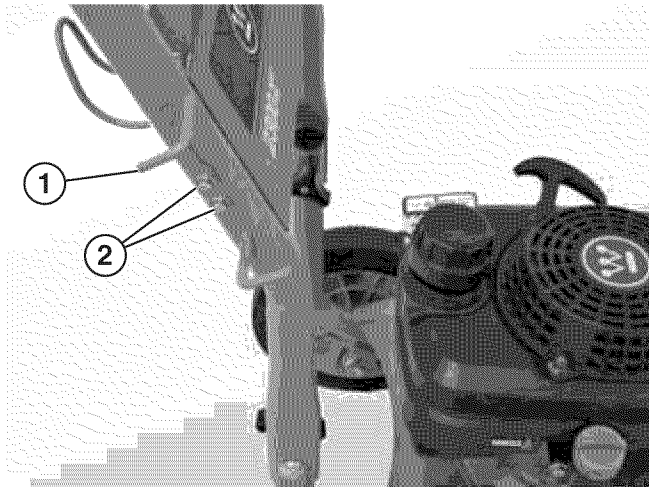

Figure 13 – Installing Spray Gun Bracket
11. Install the spray gun bracket using the M6 bolts and nuts (see Figure 13).